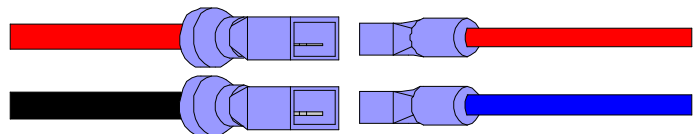

Figure 42. 35Ah Wire Harness to 8Ah Wire Harness
10. Connect the 35Ah wire harness to the 8Ah wire harness (red – red and black – blue). (Figure 42)